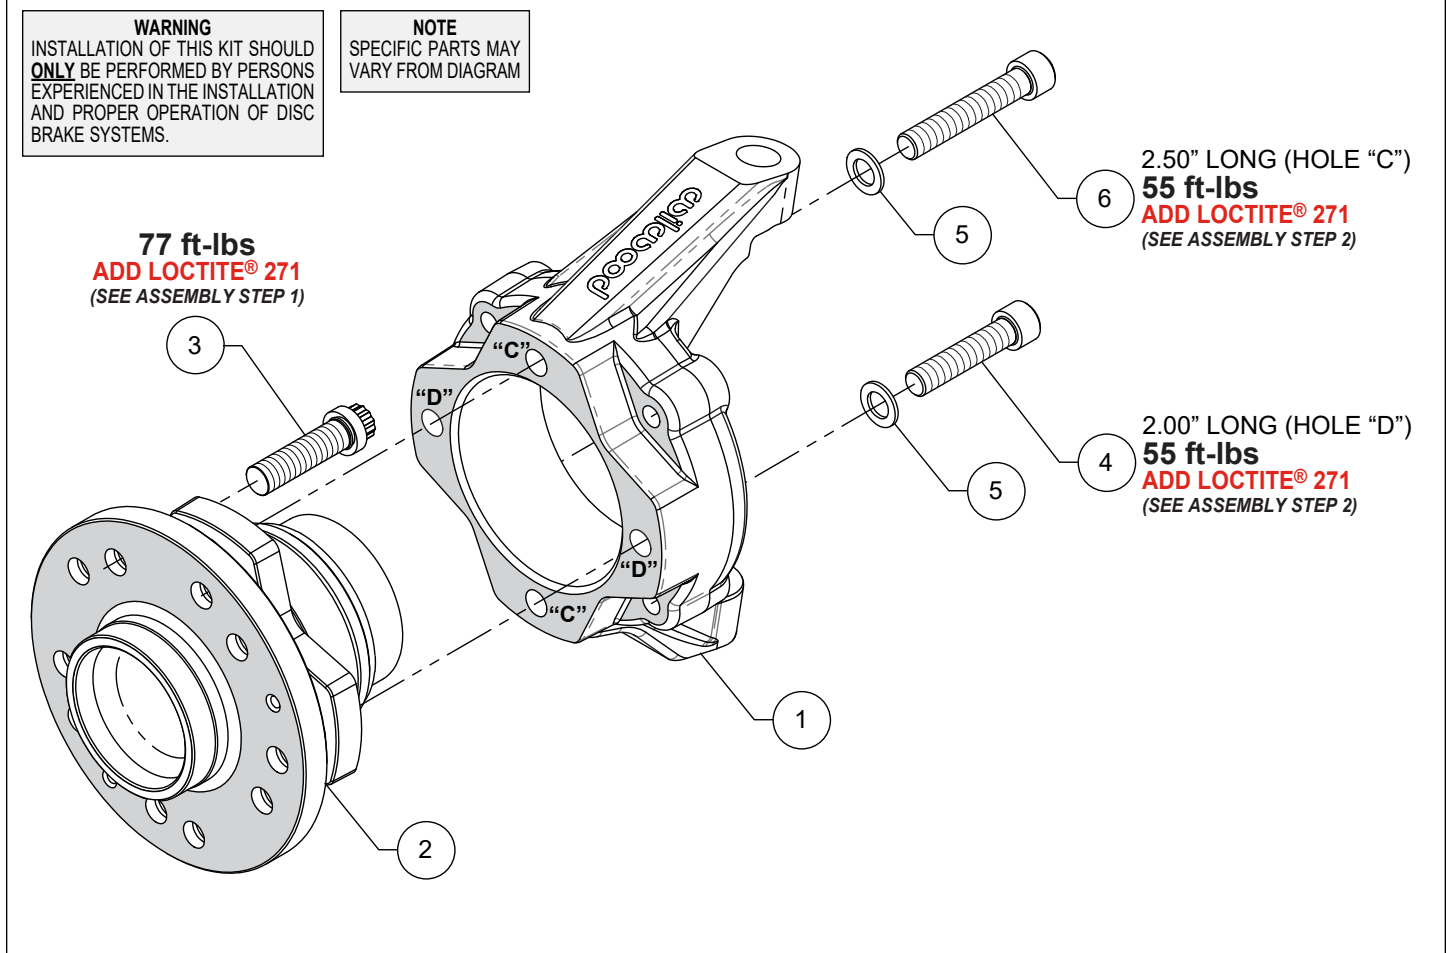

Figure 1. Typical Installation Configuration
NOTE: Numbers in parenthesis refer to the parts list and Figure 1 on the preceding page.
STEP 1 Apply red *Loctite*® 271 to the wheel stud (3) threads and install into the hub (2), Figure 1, and Photo 1. Torque to value shown in Figure 1. **NOTE:** There are two five lug patterns in the hub (5 x 4.50 and 5 x 4.75). Ensure the correct hub stud pattern is being used to fit the wheel application.
STEP 2 Install the hub assembly (2) into the spindle (1), Photos 2 and 3. Secure using bolts (4 and 6) and washers (5), Photo 3. Apply red *Loctite*® 271 to the bolt threads and torque bolts to value shown in Figure 1. **NOTE:** There are two different length bolts, ensure the correct length bolts are being used for Holes "C" and "D" as indicated in Figure 1 and Photo 3.